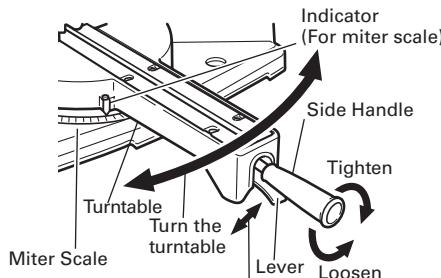
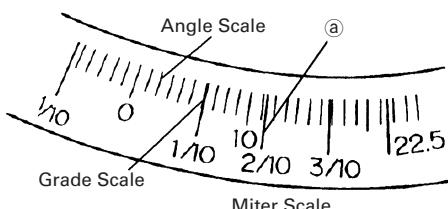

Fig. 32
Fig. 33
- (1) Loosen the side handle and pull up the lever for angle stoppers. Then, adjust the turntable until the indicator aligns with desired setting on the miter scale (Fig. 32).
- (2) Re-tighten the side handle to secure the turntable in the desired position.
- (3) The miter scale (Fig. 33) indicates both the cutting angle on the angle scale and the gradient on the grade scale.
- (4) The gradient, which is the ratio of the height to the base of the triangular section to be removed, may be used for setting the miter scale instead of the cutting angle, if desired (see Fig. 33).
- (5) Therefore, to cut a workpiece at a grade of 2/10, set the indicator to position **a** as indicated in Fig. 33.